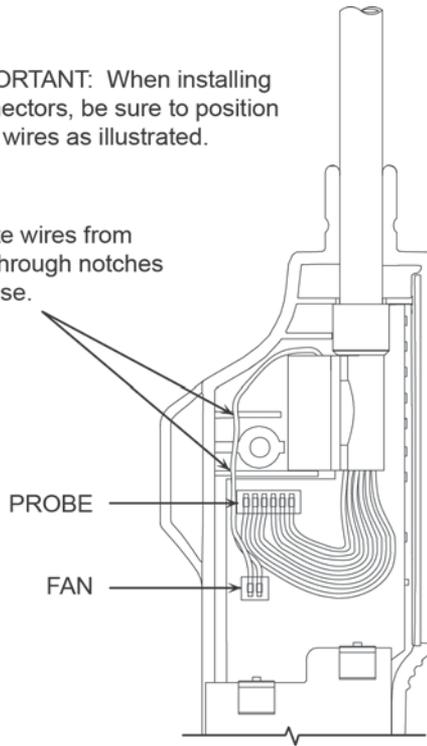

Figure 8. Connector Locations on Printed Circuit Board
7. Plug both the probe and fan connectors onto their respective header holes on the printed circuit board as shown in Figure 8.
8. Position the probe assembly between the two case halves, routing the fan wires through the notches in the case as shown in Figure 8. Then reassemble the case; push on the front retaining collar; screw on the probe tip; and reinstall the batteries.
Instrument does not turn on.	<ul style="list-style-type: none"> a. Batteries are dead or installed backward. Install four fresh 'AA' alkaline batteries per Section Battery Installation. b. Possible faulty refrigerant sensor. <ul style="list-style-type: none"> -Remove refrigerant sensor and turn on detector. If detector now turns on, and after warm-up shows a bad sensor (see sensor failure indication below), replace sensor per Section Sensor Replacement. c. Loose printed circuit board connector. Disassemble detector and ensure that all connectors are securely attached to the printed circuit board. See Figure 8.
Erratic gas indication.	<ul style="list-style-type: none"> a. Sensor faulty. Replace sensor per Section Sensor Replacement. b. Loose sensor. Unscrew probe tip and ensure that sensor is being held firmly in socket. c. Loose printed circuit board connector. Disassemble detector and ensure that all connectors are securely attached to the printed circuit board. See Figure 8.